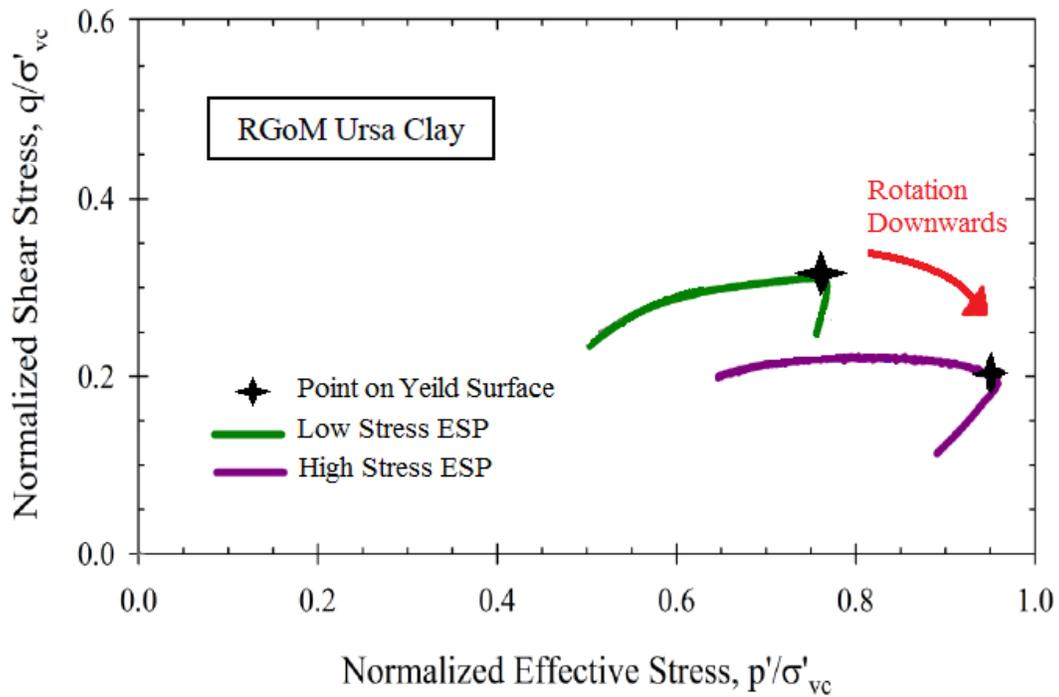

**Fig 2:** Shift in Yield Surface for Resedimented Gulf of Mexico Clay.
The yield surface is an important parameter for determining soil behavior in geotechnical practice. It is a contour that separates the stress state at which the soil is behaving elastically from where it is behaving plastically. I will use the strain energy method to characterize the yield surface for resedimented mudrocks. Resedimented mudrock specimens will be  $K_0$  consolidated to a known stress level and then unloaded to a hydrostatic stress state (Path 1-2, Fig. 1). Drained and un-drained triaxial tests will be carried out using different shearing techniques. Through these techniques, I will probe out in different directions (Blue paths, Fig. 1) to characterize the shape of the yield surface. I will then repeat this procedure at high confining stresses. It has long been believed that the yield surface is independent of stress level. However, GeoFluids research demonstrates that the yield surface is not stress independent (Fig. 2). Understanding this behavior will provide important a better foundation for numerical models and provide insight into the state of stress in the subsurface.
**Fig 2:** Shift in Yield Surface for Resedimented Gulf of Mexico Clay. A test procedure carried out at high is stress is compared to one carried out at low stress. The point on the yield surface has moved significantly. It appears that the yield surface is rotating downwards with increase in stress level.